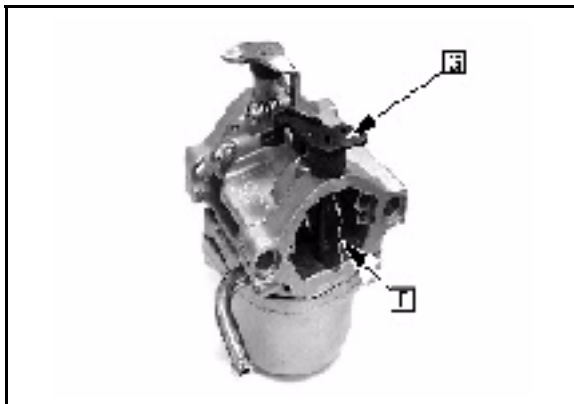

Fig. 138
11. Turn the choke plate as shown in Fig.138.
12. Pull the choke plate (F) from the choke shaft ([G] Fig. 138).